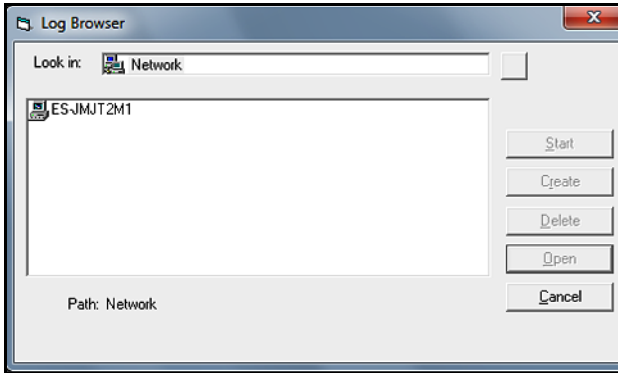

Figure 66: Create a Meter Log
- d. Double click on *meter logs* to move to the network level shown in *Figure 66* below.
- e. At the dialog box shown in *Figure 66* above, click on the [Create] button to create a new meter log.